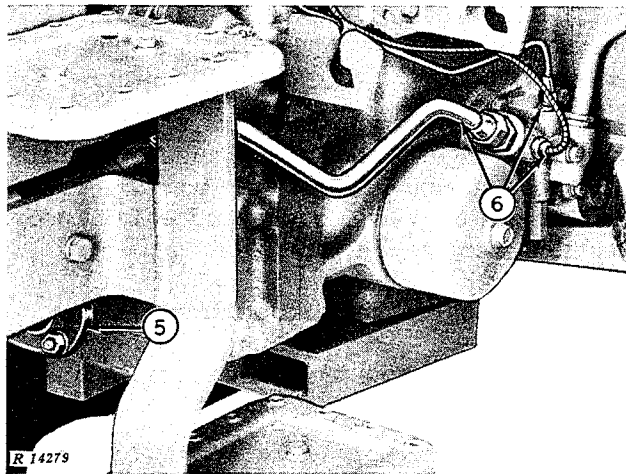

Fig. 16—Left Side of Transmission Case
5. Remove PTO quill (Fig. 16). Catch the trapped oil. If necessary, deburr the PTO shaft or tape the shaft to protect the seal.